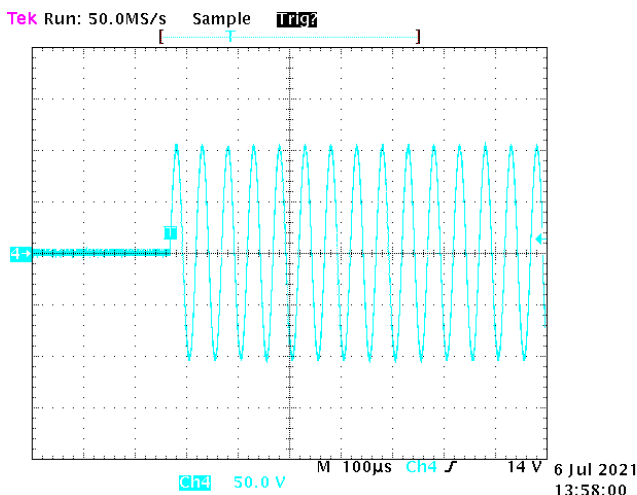

Figure 1
3. Set oscilloscope to trigger once, at a level that will allow viewing from the start of waveform playback, similar to Figure 1.
4. Verify that playback of the first segment matches Figure 1, in which the sine wave output starts at 0V.
- a. If the output is dissimilar to figure 1 in terms of waveform start value, the device will fail the RPFT.